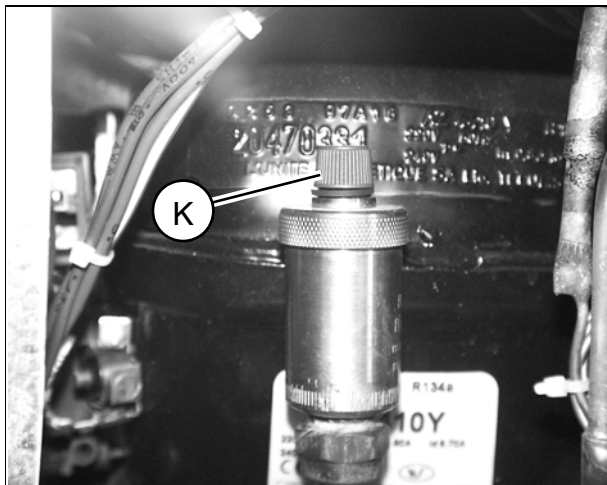

Fig. 12
- Open the degassing valve (cap K/Fig. 12) in the cooling unit by two turns (it should remain open).